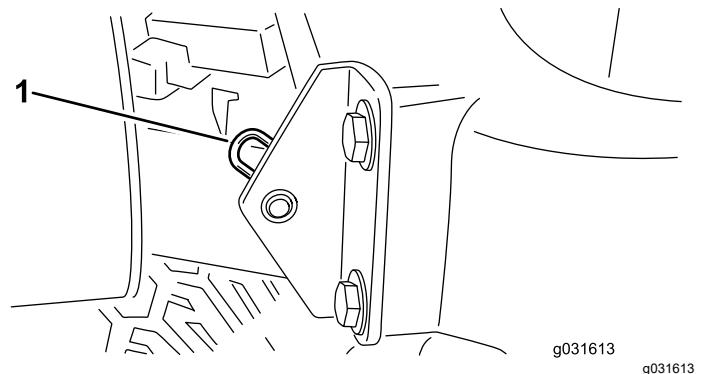

Figure 29
2. Remove the hairpin cotter securing the hood pivot to the mounting brackets (Figure 29).